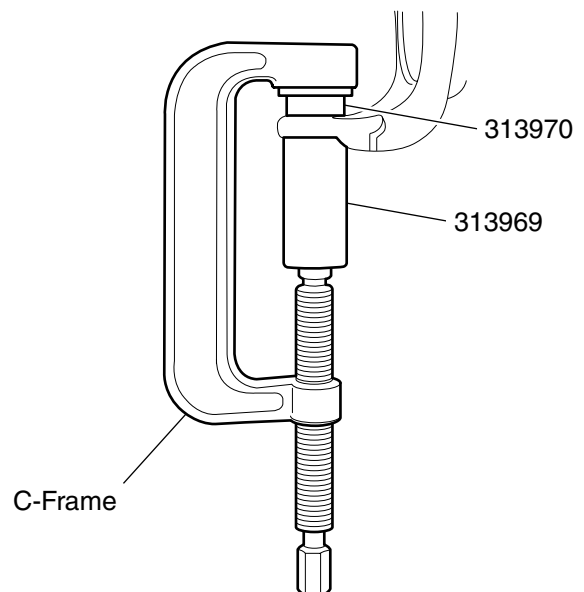

Figure 2. Ball Joint Installation
3. Position 313969 on the ball joint as shown in Figure 2.